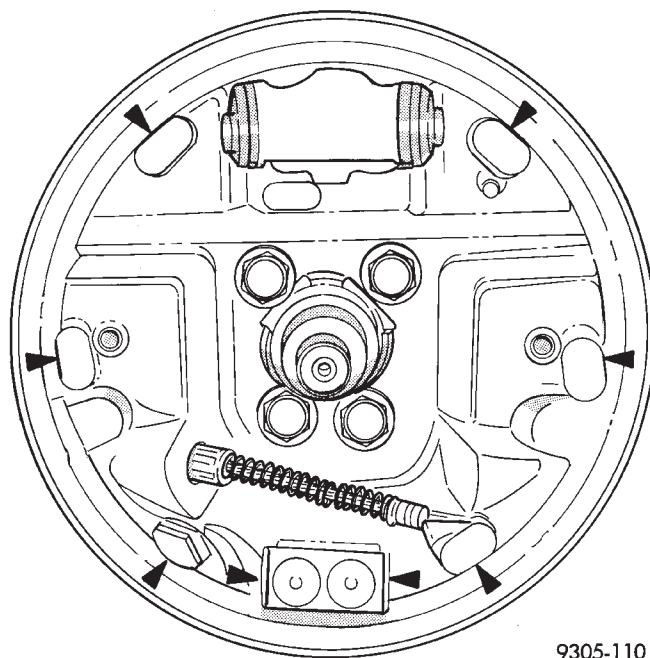

Fig. 15 Brake Shoe Assembly Contact Areas on Support Plate
(1) Lubricate the eight shoe contact areas on the support plate and anchor using Mopar Multi-Purpose Lubricant or equivalent (Fig. 15).